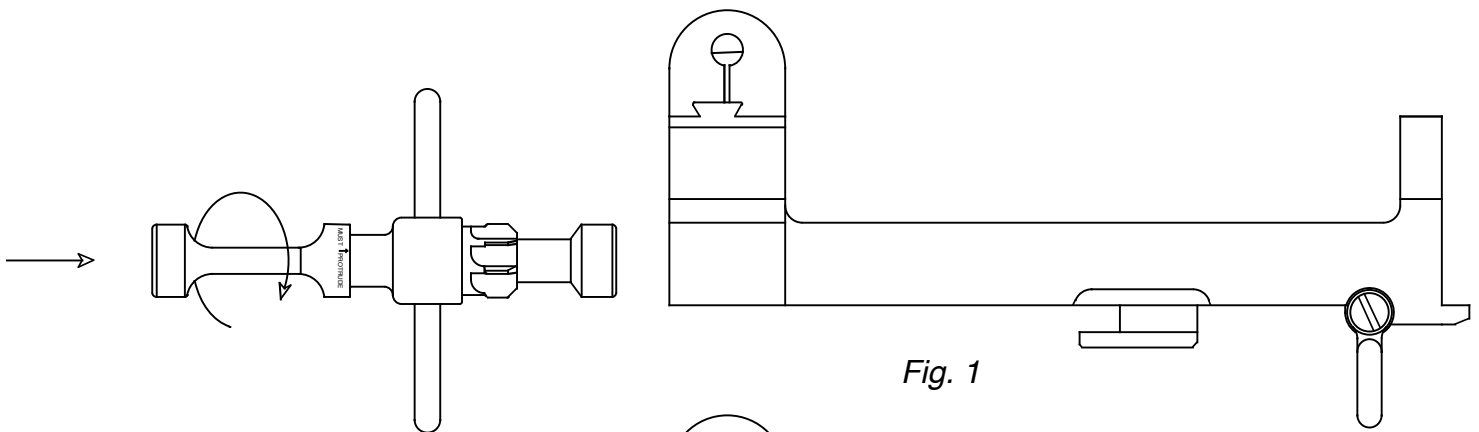
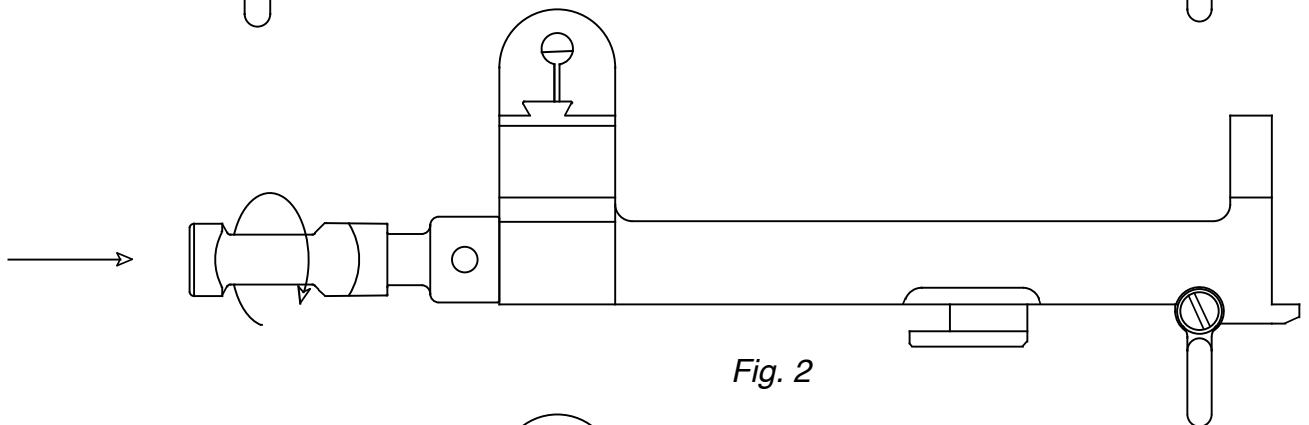

Fig. 1
Fig. 2
2. With the reamer end of the Gage, rotating it in a clockwise direction, insert it into the gas cylinder. (Fig. 1) Continue to turn and insert until the gage bottoms out on the face of the Gas cylinder. (Fig. 2) This removes carbon deposits in the threads.